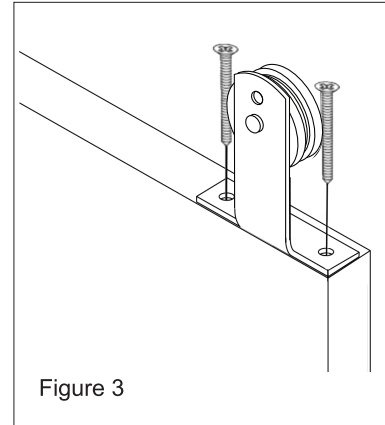

Figure 3
5. Attach the hanger to the door using two hanger fastener screws (provided). Repeat the process on the opposite end of the door (Figure 3).
4. Take the track down, drill out the marked holes using a drill with 1/4" drill bit (Figure 3).